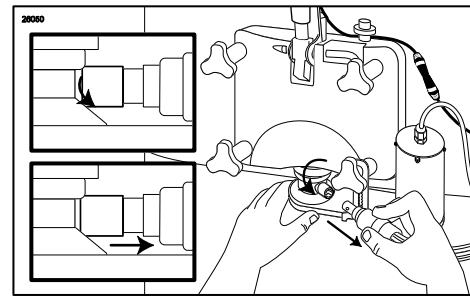

Figure 53
2. Rotate the 9-Tube Assembly coupler until it unlocks and remove it from the Injector Head syrup line opening. (See Figure 53.)